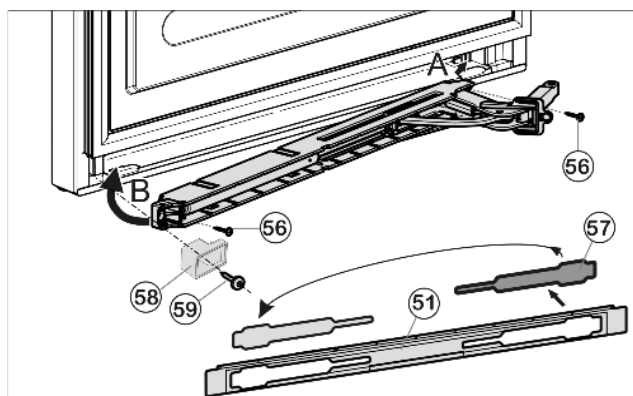

Fig. 31
- ▶ Loosen cover *Fig. 31 (57)* from the panel *Fig. 31 (51)* and insert on the other side.
- ▶ With the hinge of the soft stop unit facing the door hinge side, engage the soft stop unit (A) and swivel inwards (B).
- ▶ Tighten soft stop unit (2 x Torx 15) *Fig. 31 (56)*.
- ▶ Screw on spacer *Fig. 31 (58)*.